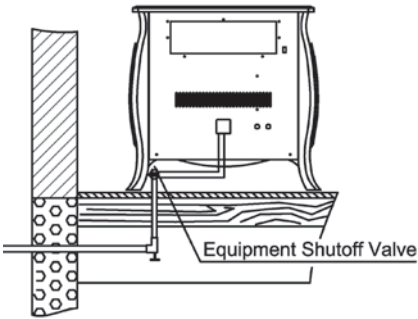

Figure 9 - Checking Gas Joints
3. Check all joints from gas meter to equipment shutoff valve (see Figure 9). Apply mixture of liquid soap and indicates to gas joints. Bubbles forming show a leak.
4. Check all joints from equipment shutoff valve to control valve (see Figure 9). Apply mixture of liquid soap and water to gas joints. Bubbles forming show a leak.